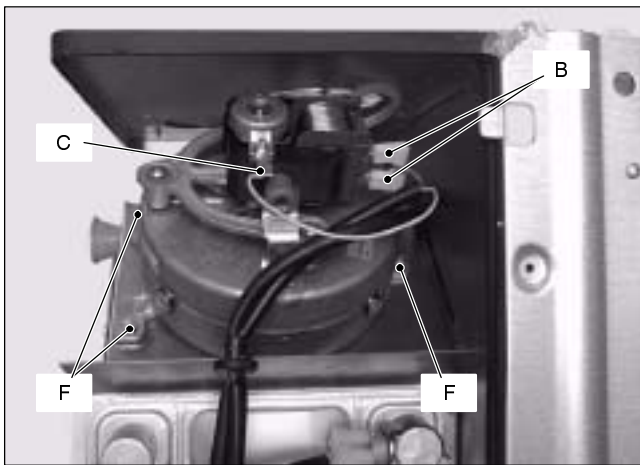

Fig. 68
- 2 Disconnect the connectors B (Fig. 68) and measure the electrical resistance of the motor that has to be about:
- 2 Disconnect the connectors *B* and the earth connection *C* (Fig. 68).
- 5 Remove the three screws *F* (Fig. 68) securing the Fan to the flue hood and remove the fan.